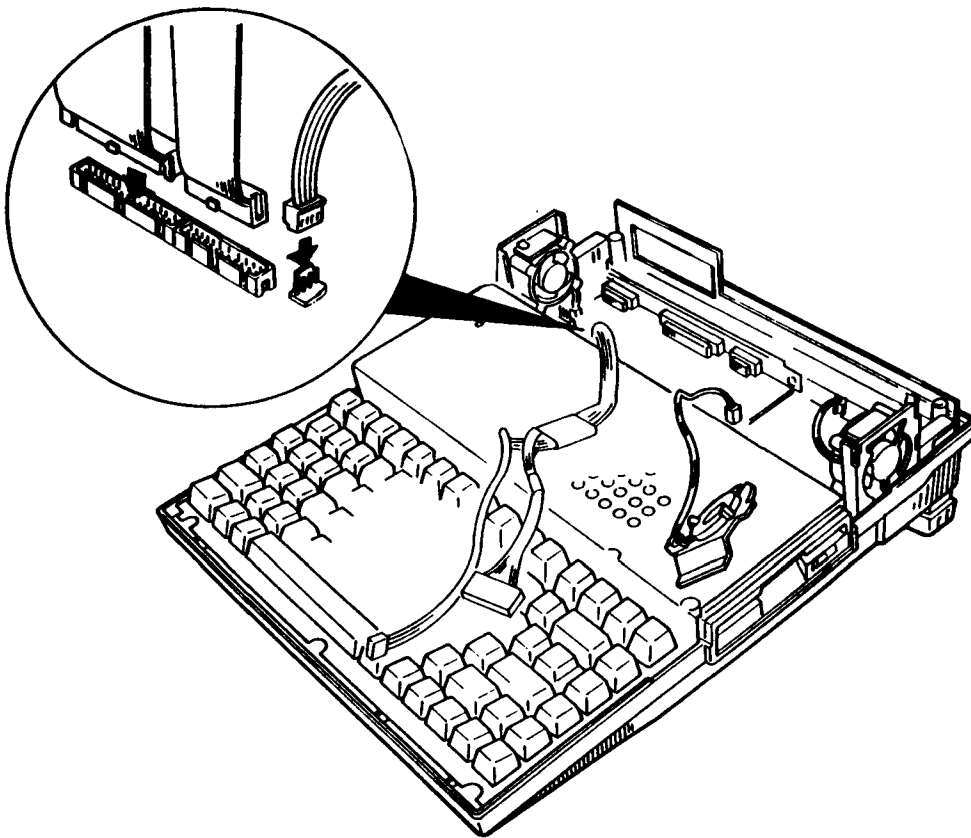

FIGURE 2-6 HDC and HDD Power Connector Check
3. Check that the HDC signal cable and HDD power cable are secure. (Refer to figure 2-6)